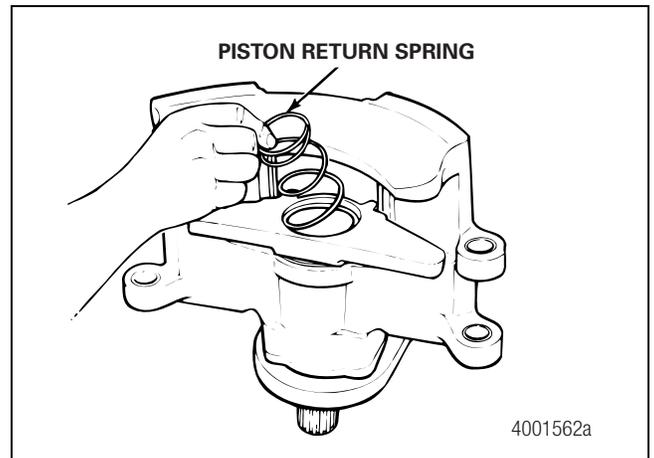

Figure 5.8
9. Remove the spring retainer and the return spring. Figure 5.8.